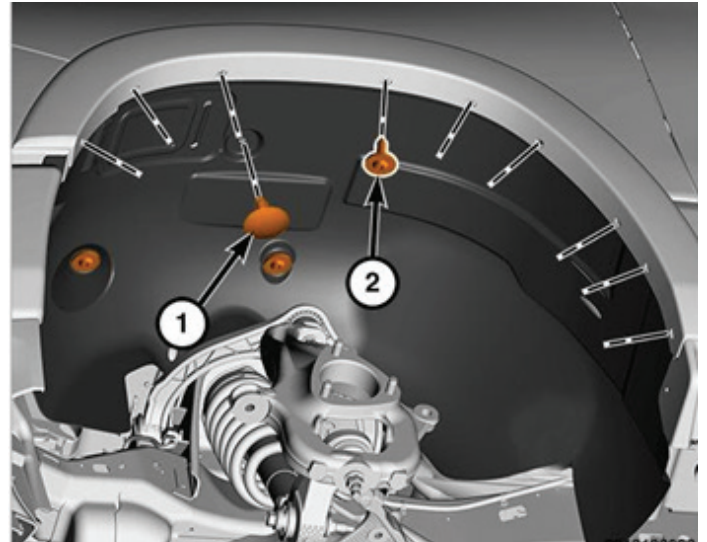

Figure 6
12. Using an 8mm socket wrench, remove the eight (8) or ten (10) wheel well liner bolts. (Figure 6, #2)
13. Using a plastic panel pry tool, remove the push pin retainer from the wheel well liner. (Figure 6, #1)